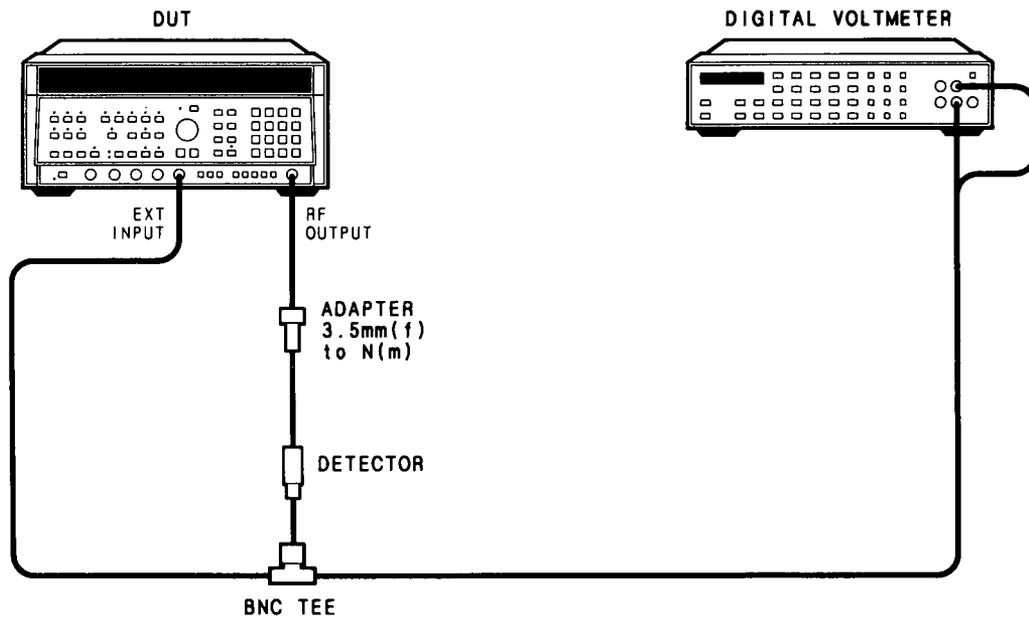

Figure 5-71. External Module Leveling Adjustment Setup
1. Connect the equipment as shown in Figure 5-71. Turn the DUT's LINE switch ON and allow 30 minutes for the equipment to warm up.